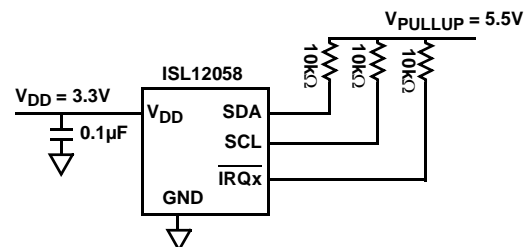

FIGURE 2. EXAMPLE CIRCUIT WITH  $V_{DD}$  AT 3.3V AND I2C AND  $\overline{IRQx}$  PULLED UP TO 5.5V
- A system that has the I2C lines pulled up to 5.5V (or other voltage higher than 3.6V), but has a 3.3V regulator on board requires a simple modification to connect the  $V_{DD}$  to 3.3V instead of 5.5V. Figure 2 shows an
- A system that has the I2C lines pulled up to 5.5V (or other voltage higher than 3.6V), but has a 3.3V regulator on board requires a simple modification to connect the VDD to 3.3V instead of 5.5V. Figure 2 shows an example circuit with VDD to 3.3V and I2C lines and IRQx pulled up to 5.5V.